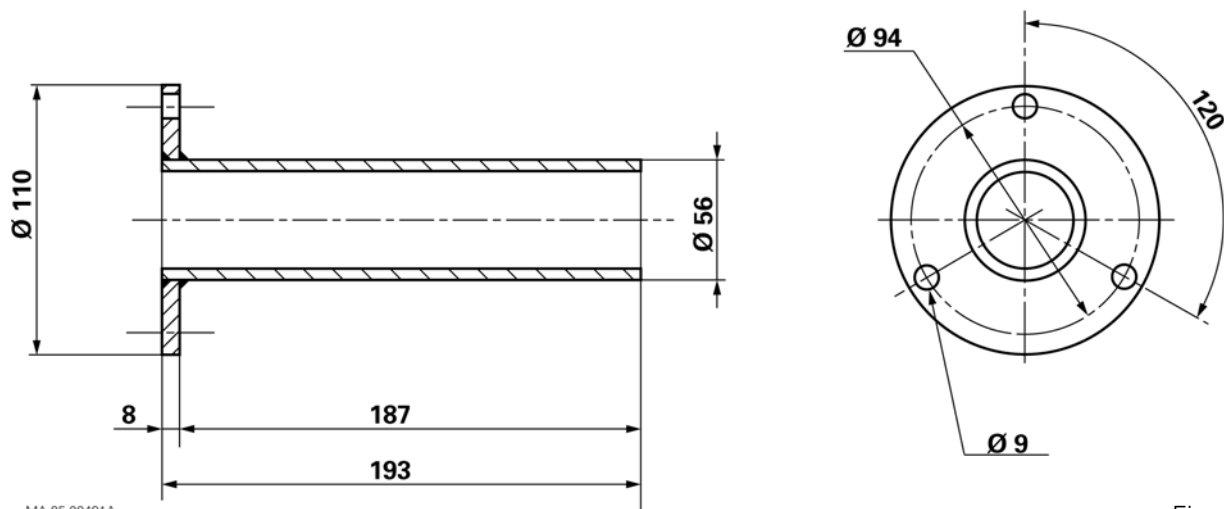

Fig. 10
- **Supporting sleeve for the layshaft** (Fig. 10)